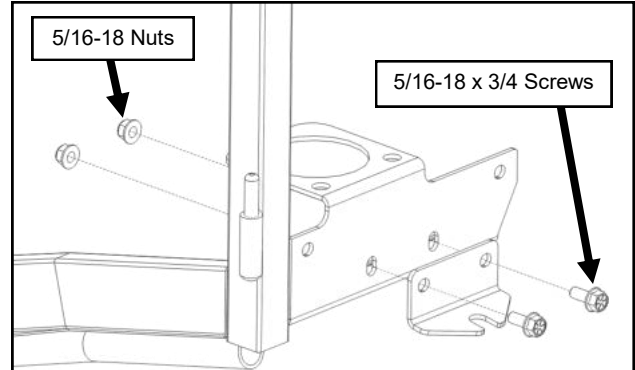

Fig. 4.2 (Pre-Assemble Bracket to Side Frame)
4.2 Pre-install a lower ROPS bracket to the left side frame. See Figure 4.2.